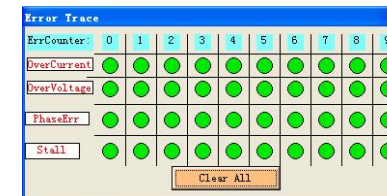

Figure 27: Error check window
- Error Check:** This window shows both the present status of each error event and their history. Current error event(s) can be reset by clicking **Erase Current Err!** button, and all error events can be reset by clicking **Erase All!** button. List of the last ten drive faults. #0 being the most recent, #9 is the oldest. See Figure 27.